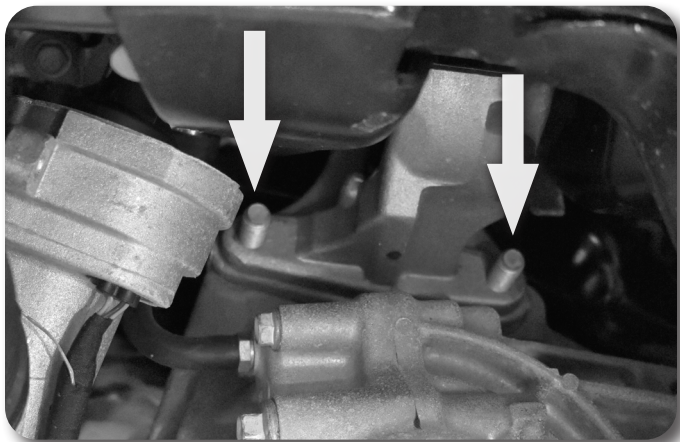

Figure 26
46. Ensure the differential is supported. Loosen and remove the two forward-most differential mounting bolts on the driver's side, manipulating the wiring harness location in order to gain clearance. Fig. 26